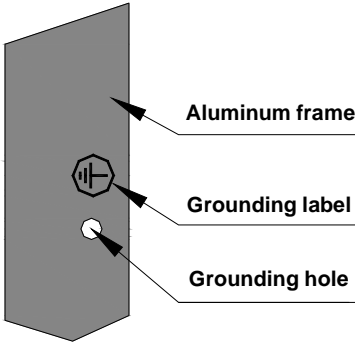
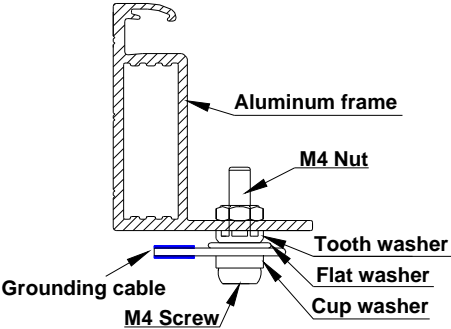

Figure 5 Grounding hole and ground label
Figure 6 Grounding method
7.5.1 Modules use anodized aluminum alloy frame as a rigid support, in order to avoid modules by lightning and electrostatic damage, as well as the protection of personal safety, all module frames and mounting racks must be grounded. If there is no special provision, please follow the International Electrotechnical Commission standards or other international standards. Use the recommended connection terminals to connect the grounding cable to the module frame. Use 12 AWG copper wire for the grounding wire. As shown in Figure 5 on the module ground hole and its label, Figure 6 shows the module grounding method.